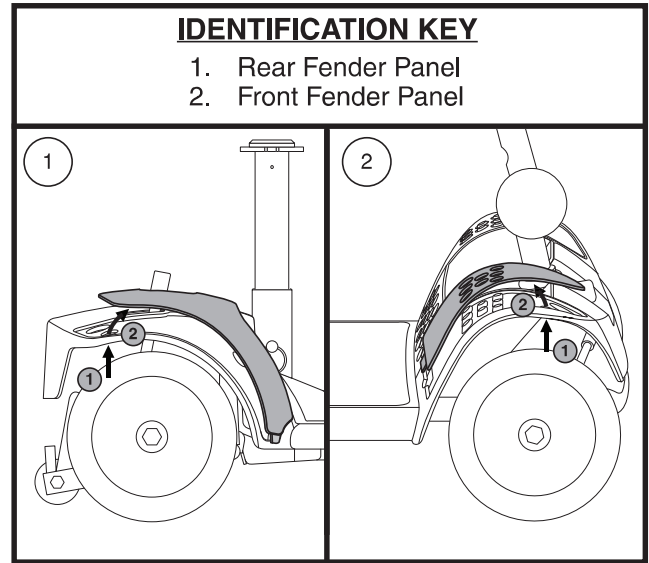

Figure 8. Fender Panels
2. Push through the hole to separate the piece from the Travel Scooter. See figure 8.
NOTE: When installing the front and rear fender panels, make sure the tab at the bottom of each panel is inserted into the tab opening before securing the panel. See figure 8.